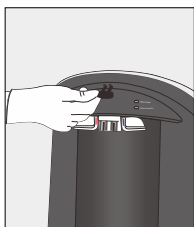
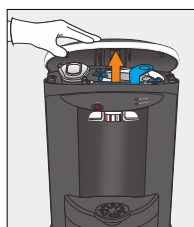

Figure 30
Figure 31
5. Remove the access key provided in the kit and insert this access key into the 2 holes located at the underside of the top edge of the cooler (above water levers) and push inwards (Figure 30 and Figure 31) (once unlocked, the front of the top cover opens upwards)